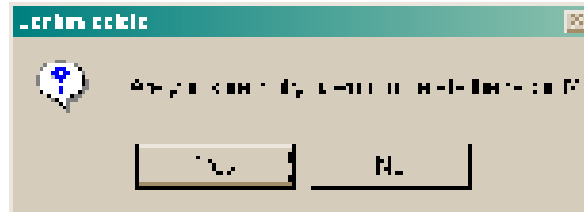

Figure 5.10 Delete confirmation message.
1. Select the product you wish to delete and click Delete. A confirmation message (Figure 5.10) is displayed, asking you to confirm the deletion.